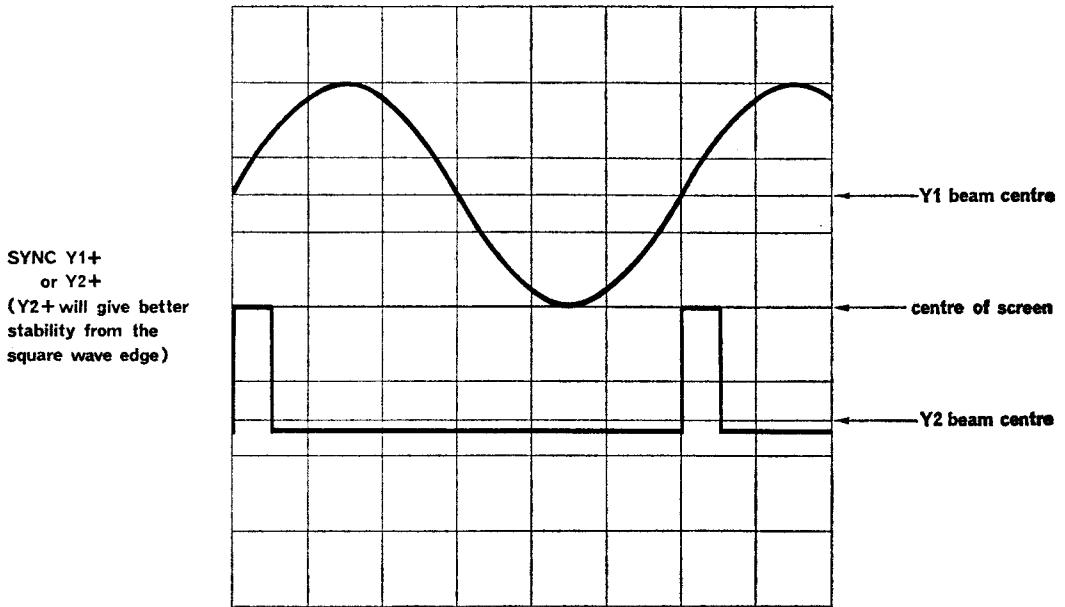

Fig. 5. Typical display
Adjust the brilliance controls until both traces are at a reasonable viewing level, and then set the focus controls so that both traces are clearly defined. Turn the Y1 and Y2 shift controls until the traces lie over their respective beam centre lines on the graticule (see Fig 5). Turn the X shift until the traces start at the first line on the graticule.
12. The signals shown in figure 5 are the input (sine wave on Y1), and the output (pulse waveform on Y2) of a switching circuit such as a flip-flop. To display these the signals are applied to the Y1 and Y2 input terminals via the 36 in. coaxial leads provided. Take adequate precautions when making connections to avoid electric shock. In particular, connect the earth lead first, *let go of it*, then connect the signal (live) clip—working one-handed if it is possible. Make sure that the clips do not cause a short circuit in the equipment by falling against other leads or components, especially when working on transistorized equipment.
13. Interpreting the display. For most fault-finding applications the display shown in figure 5 presents all the information which would be needed and no further control adjustments are necessary. The information obtainable from the display is as follows: